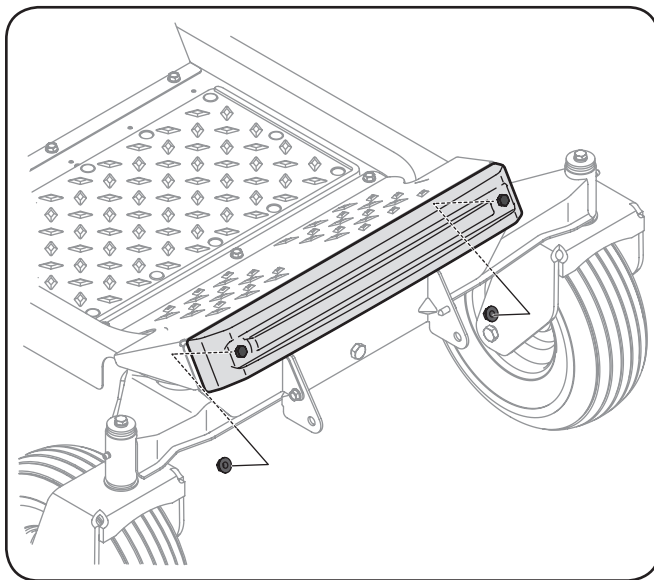

Figure 4-24
2. Position the weight bar onto the foot rest and secure it in place with two 3/8" flange nuts (712-04065) from the same hardware pack. See Figure 4-24.